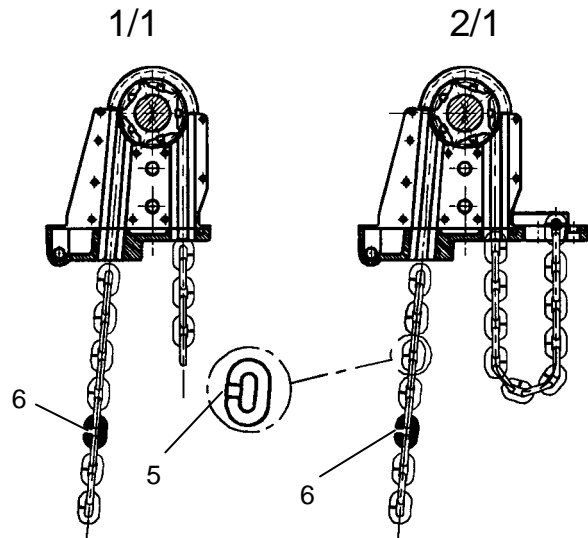

Figure 16
- Attach new chain to the old chain with a C link (**Figure 16, Item 6**).
- The position of the weld (**Figure 16, Item 5**) must be as shown.